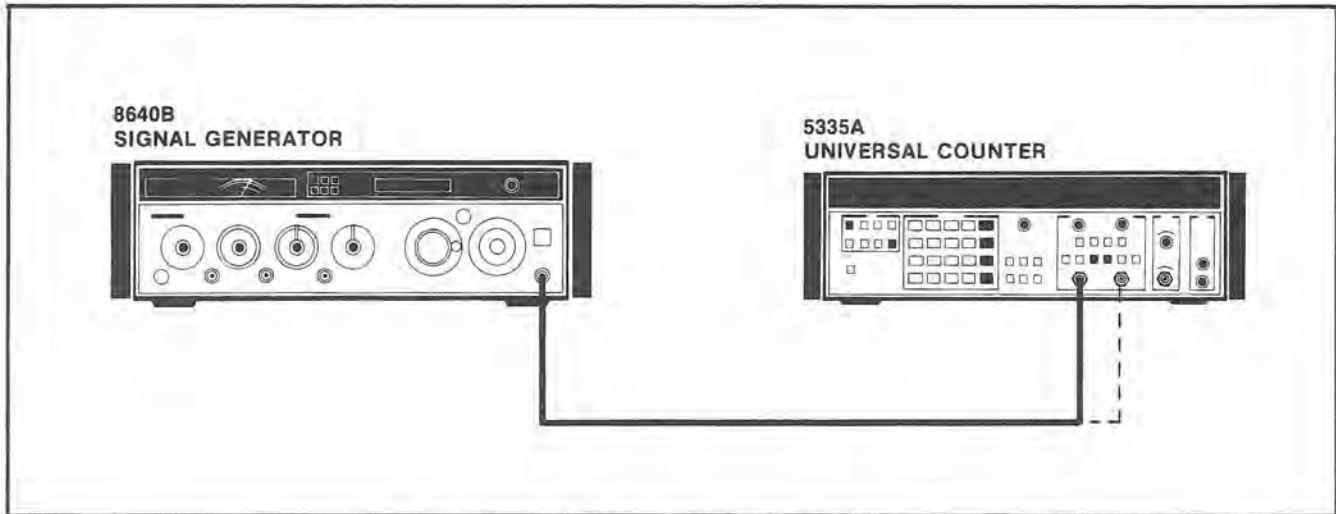

Figure 8-2. Test Setup for A3C37 and C23 Selection
- Connect the 8640B Signal Generator RF output to 5335A input A as shown in *Figure 8-2*.